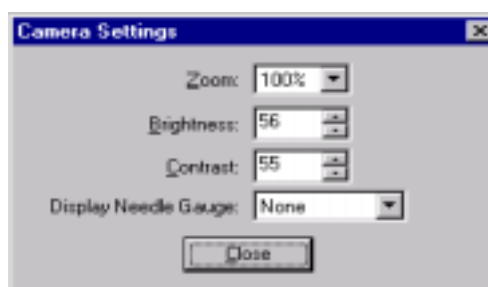

Figure 6-4
- a. Select the **C**amera **S**ettings button. The **Camera Settings** screen appears. See Figure 6-4.